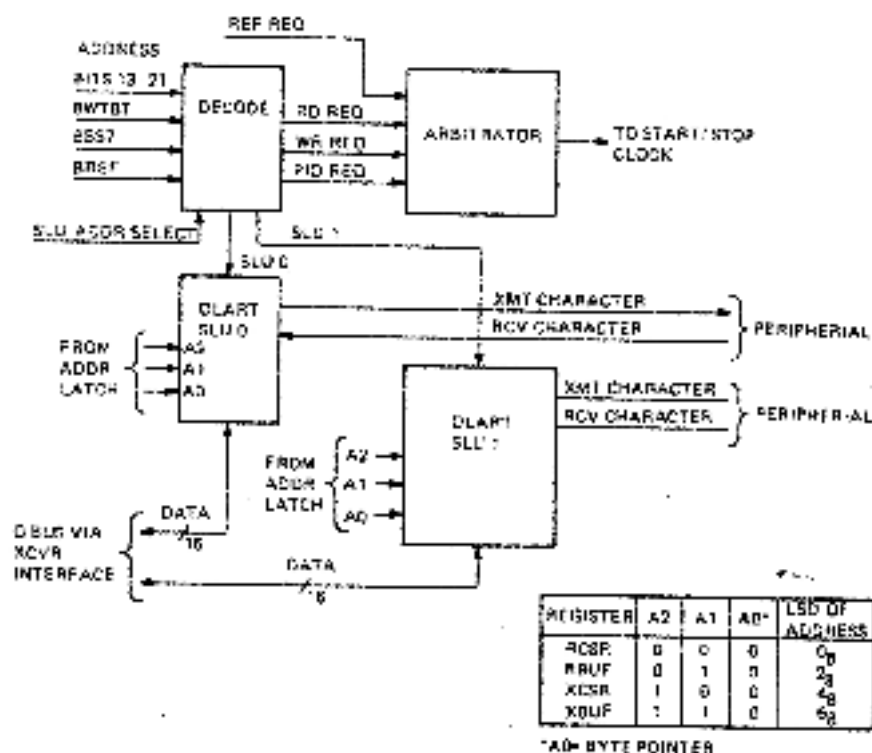

Figure 2-8 SLU Register Addressing
The SLU registers for both SLUs are addressed via address lines A2, A1, and A0 from the address latch (Figure 2-8). The address latch and decoder are the same as shown in Figure 2-3. A2, A1, and A0 are applied to both SLUs. The SLU selected is determined by the chip select (CS) input to the DLART and is a function of the decode logic.
The chart in Figure 2-8 shows how A2, A1, and A0 select one of the four DLART registers by determining the least significant octal digit of the address.